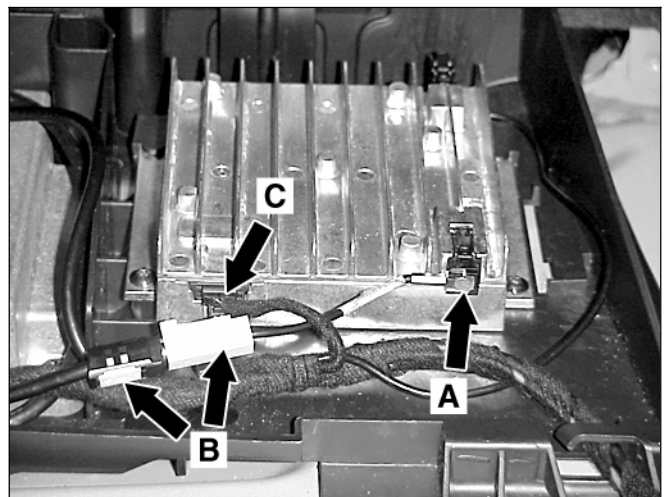

Figure 6
6. Connect the compensator adapter cable (found in the kit) male connector to the compensator jack labeled "PORTABLE" (A, Figure 6).
7. Connect the female connector of the compensator adapter cable to the harness coaxial cable male connector (B, Figure 6).
8. Connect the compensator power cable to the linear compensator (C, Figure 6).